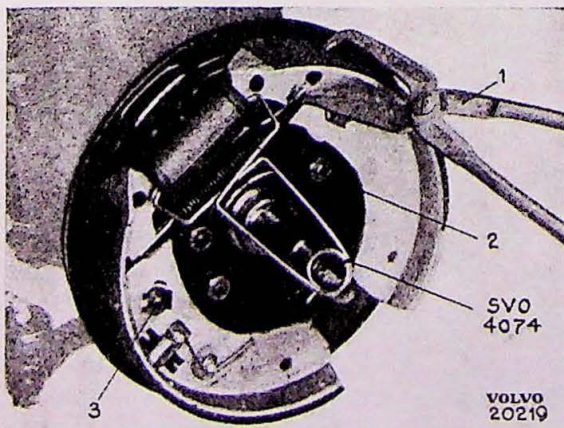

Fig. 18.
2. Fit clamp SVO 4074 so that the thrust plugs are prevented from being pushed out, see Fig. 18.